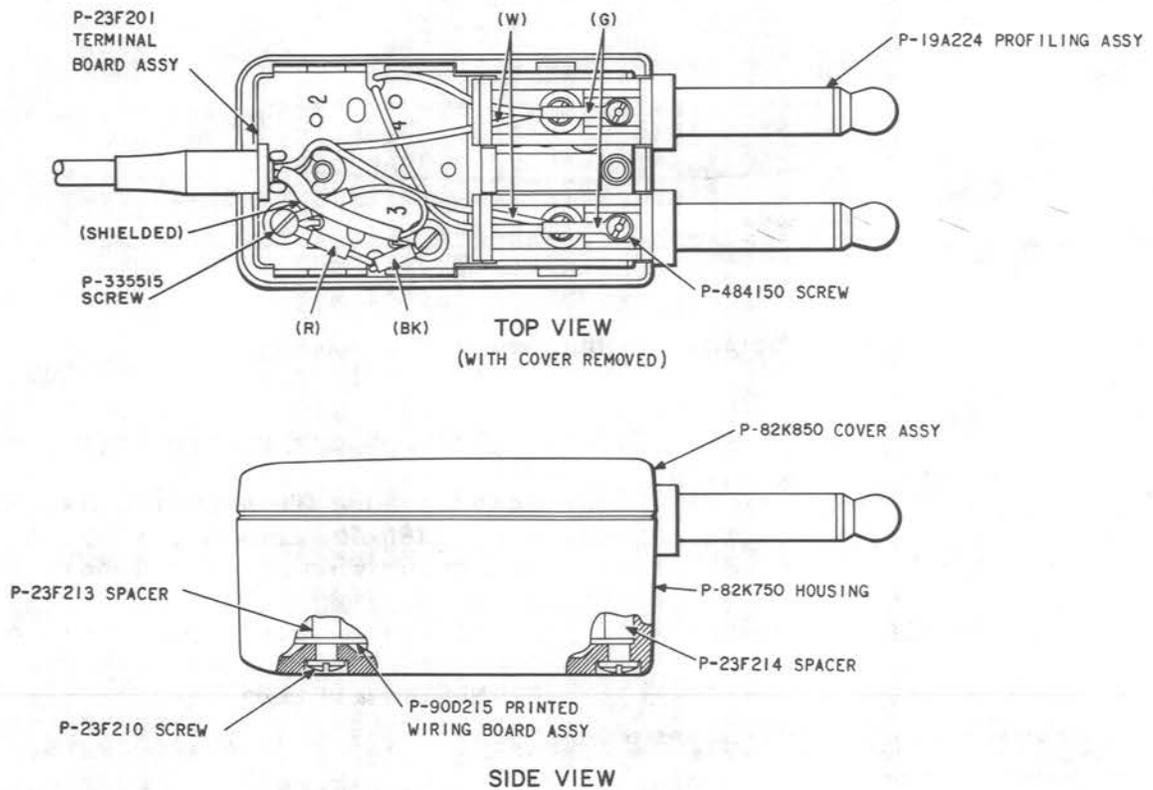

Fig. 5—280A-50 Amplifier
- 4.06 280A-50 Amplifier** (Fig. 5): To replace the amplifier, proceed as follows:
#### 4.07 Profiling Assembly Associated with 280-50 Amplifier (Fig. 5): Remove the profiling assembly as follows:
4.08 *Printed Wiring Board Associated with 280-50 Amplifier* (Fig. 5): Remove the printed wiring board as follows: